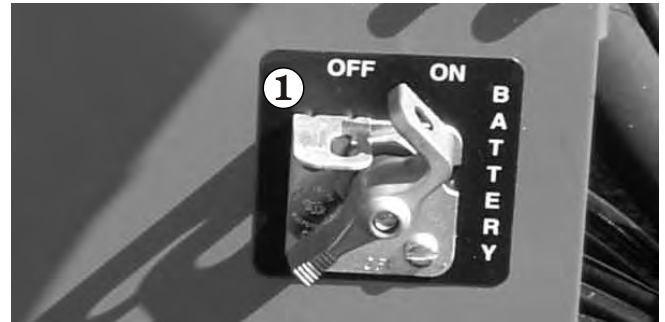

Figure 8.7
1. Set the **Battery** switch **1** to on (see Figure 8.7).